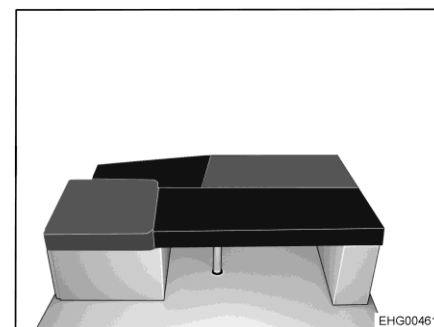

Fig. 161 After conversion
- Place rectangular additional cushion on the table (see Fig. 161).
- Place triangular additional cushion on the long bed widening between lateral seat and individual bench (see Fig. 161).